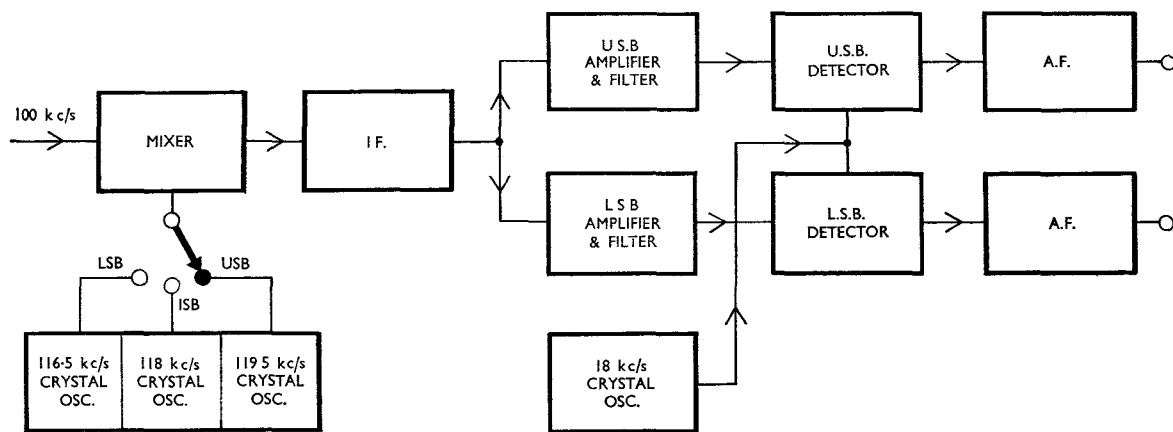

FIG. 4 SIDE BAND CONVERTOR (CJK) (SHOWING SSB OUTPUTS ONLY)
b. General Description. Fig. 4 shows the block diagram of the receiver RA117.